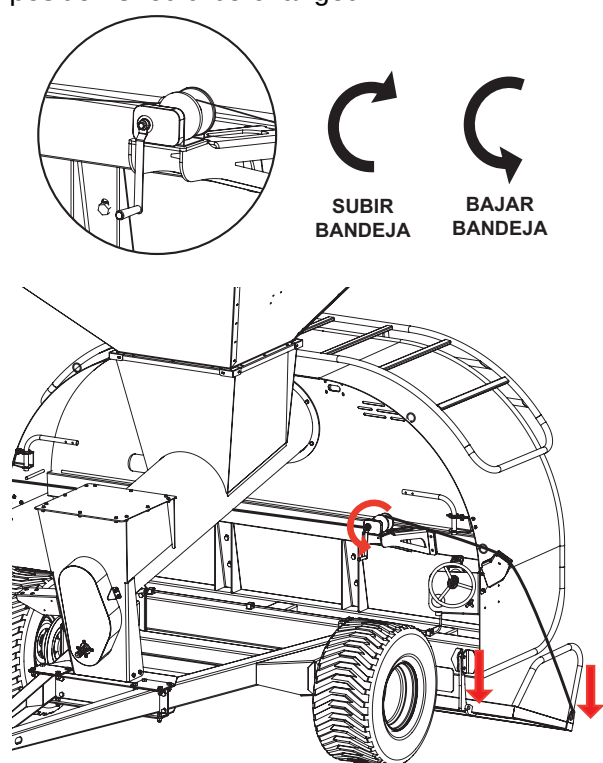

Figure 9 - Tray Positions
1) Loosen the side turnbuckles that hold the tray by cranking the winch placed at the front of the machine as shown in figure 9. The tray should be left in contact with the ground. The tray admits two possible positions: an operating position and a transport position. To compare the features of both positions, please see the figures below.